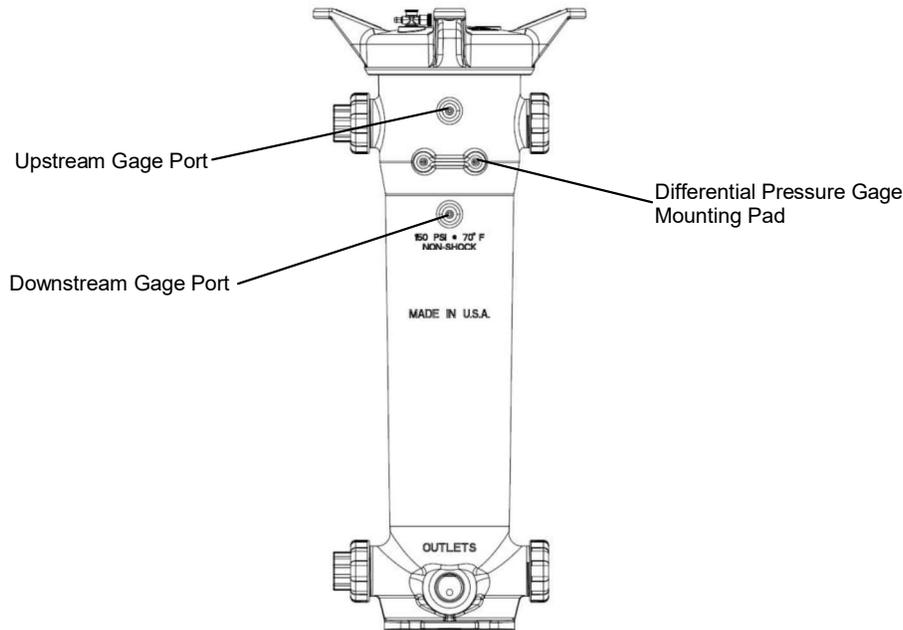

Fig. 2: Differential pressure gauge ports (back view)
- 1.5.1.2 Remove threaded pipe plugs from upper and lower differential pressure ports (if vessel provided with drilled and tapped differential pressure ports). (See fig. 2.)